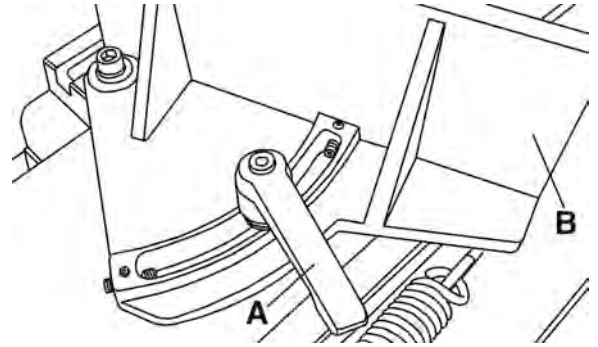

FIGURE 11
The vise can be adjusted to cut any angle from a straight 90 degree cut-off to 45 degree angle. To adjust the angle of both vise jaws, first loosen the spring loaded clamp handle (A) Fig.11 on the right side vise jaw (B) and position it to the desired angle and retighten the spring loaded handle.